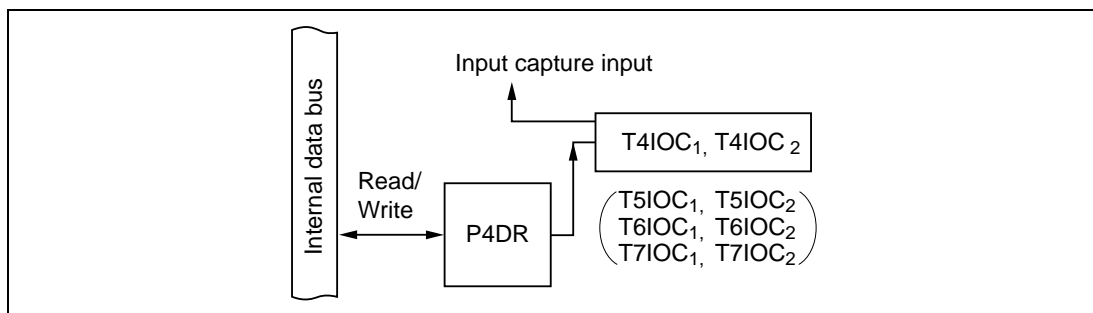

Figure 10-25 Input Capture Combined with General-Purpose Output (Modes 1 to 7)
(4) Timer Input Combined with General-Purpose Output (Modes 1 to 7): Figure 10-25 shows a block diagram illustrating the input capture function when combined with general-purpose output. Table 10-18 indicates register read/write data. An input capture pin can also function as an output port, in which case the output value is input to the timer.